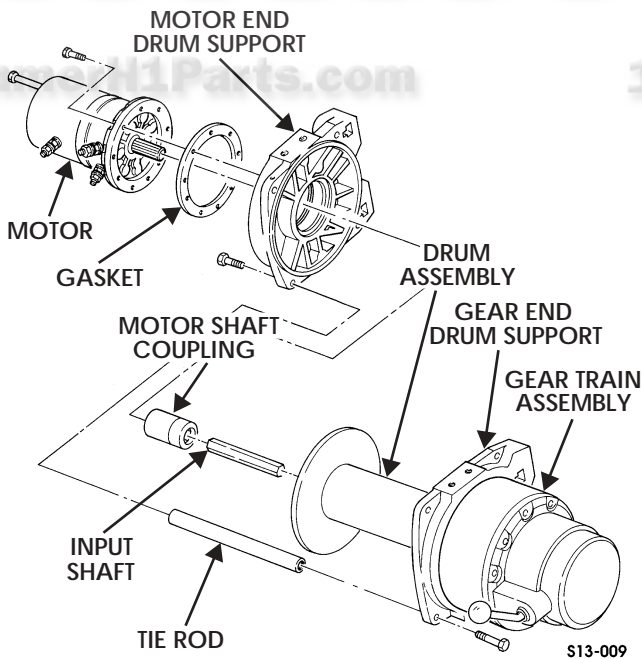

Figure 13-7: Drum Support and Gear Train Assembly
6. Mark motor end drum support, gear train assembly, and gear end drum support for assembly (Figure 13-7).